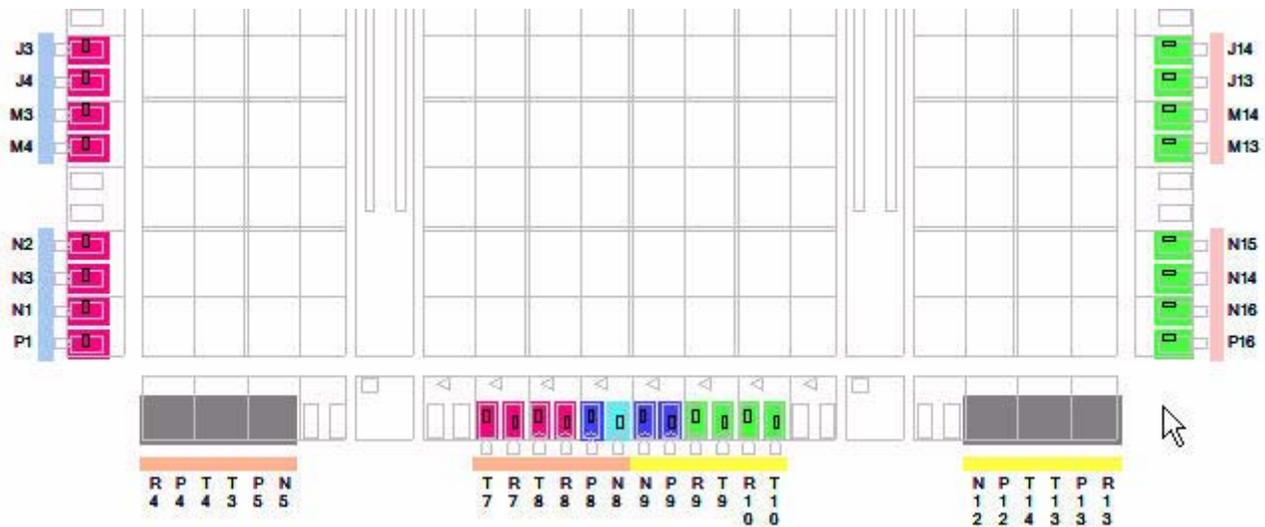

Figure 12: Signal placement suggestions
5. Place other signals based upon the suggestions in the following sections (Figure 12).